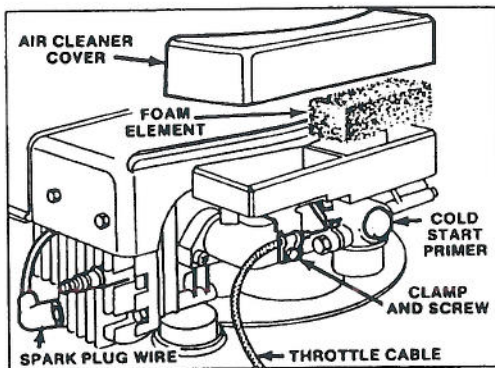

Figure 14
3. **COLD START** — Before starting engine when temperature is below 50° F (10° C), push cold start primer 5 times (Fig. 14), pausing 2 seconds between each push.
1. Stop engine and pull wire off spark plug (Fig. 14).
2. Lift off air cleaner cover and clean thoroughly (Fig. 14).
3. If top of foam element is dirty, remove it from air cleaner body (Fig. 14). Clean thoroughly.
2. Clean around spark plug and remove plug from cylinder head (Fig. 14).
4. Loosen cable clamp screw until throttle cable slides (Fig. 14). Move carburetor control arm as far to the left as possible. Pull throttle cable slightly to remove any slack and tighten cable clamp screw to lock adjustment in place.